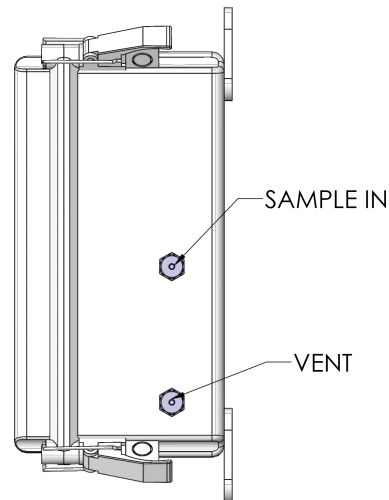

Figure 7. Gas ports (right elevation)
Your analyzer is equipped with two gas ports as shown in Figure 7.
1. See Figure 7 on page 15 for port designation and connect your **Sample** and **Vent** lines accordingly.